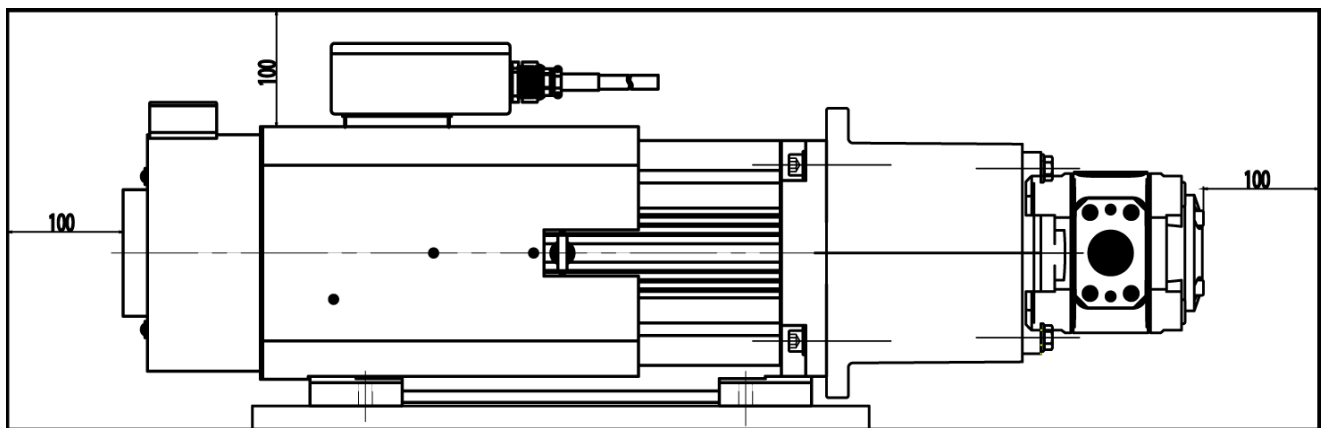

Fig. 13: Fan distance
- ▶ Ensure that a minimum distance between fan grid and machine is complied with for aspiration and/or discharge of the air. The distance is determined by the motor construction, see Fig. 13: "Fan distance".